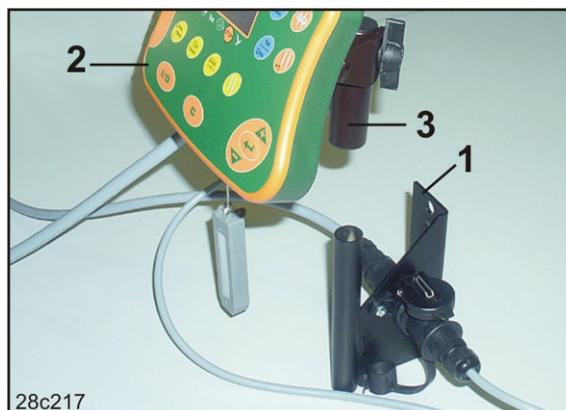

Fig. 17
1. Screw the bracket (Fig. 17/1) so that is free from vibrations and electrically connected to the right of the driver's position in the tractor cab, within visual range and easy to access (Fig. 17/2).
2. Equip the control terminal with the counterpart (Fig. 17/3).